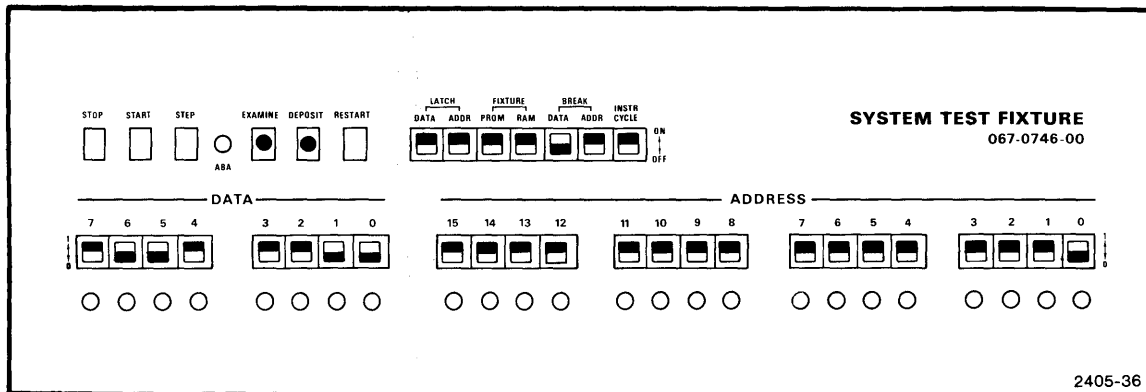

Figure 5-2. Test Fixture Controls and Indicators.
9. Set the Data Switches for X'9C' and the Address Switches for X'FFFE'. See Figure 5-2.